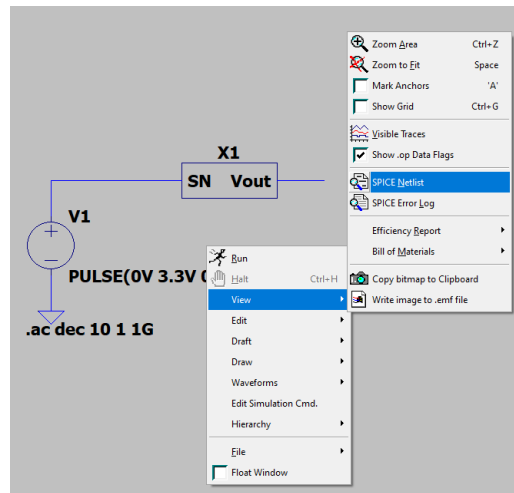

Figure 7: Open the netlist
6. View the Spice-netlist as shown in Figure 7 by right clicking on any open space in the document.